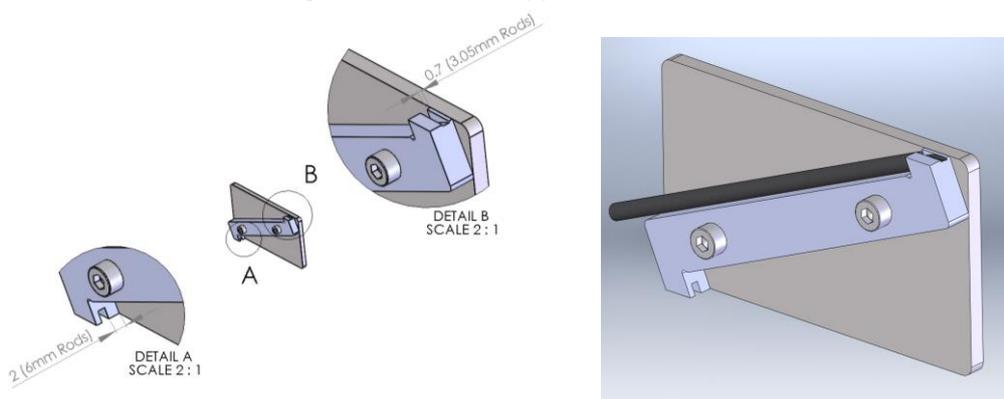

Figure 5-5. Wedge tool (Part No. 12097)
2. You will then need to shape one of these rods to form a wedge using the wedge tool (Part No. 12097). This tool can be used to shape 3mm or 6mm rods. Use the end which has the groove closest to the plate to shape 3mm rods (see Figure 5-5, detail B).